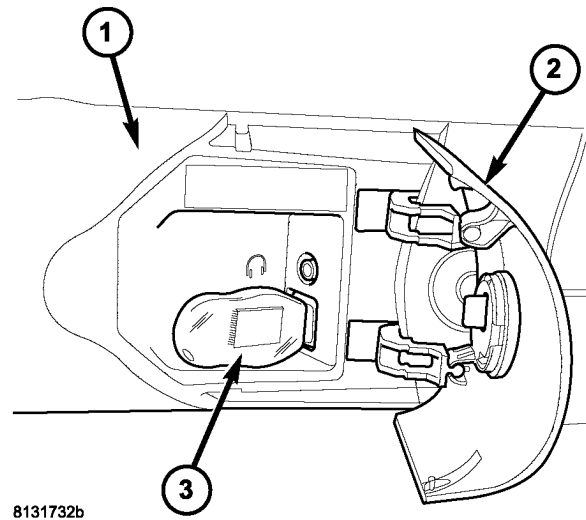

Fig. 2 USB KEY AND TECHCONNECT PC
2. Insert the USB Key, into the USB port on the TechCONNECT or equivalent PC (Fig. 2).